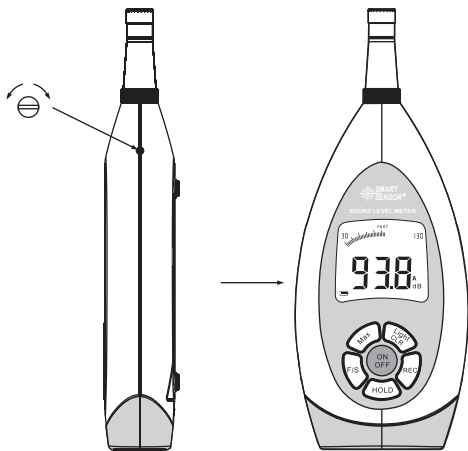

Figure 1
- Insert the microphone head into the standard calibration jack, set the standard source as 94dB@1KHZ, use a small - screwdriver adjusts the calibration knob at the round hole until LCD display 93.8, as shown in figure1 :